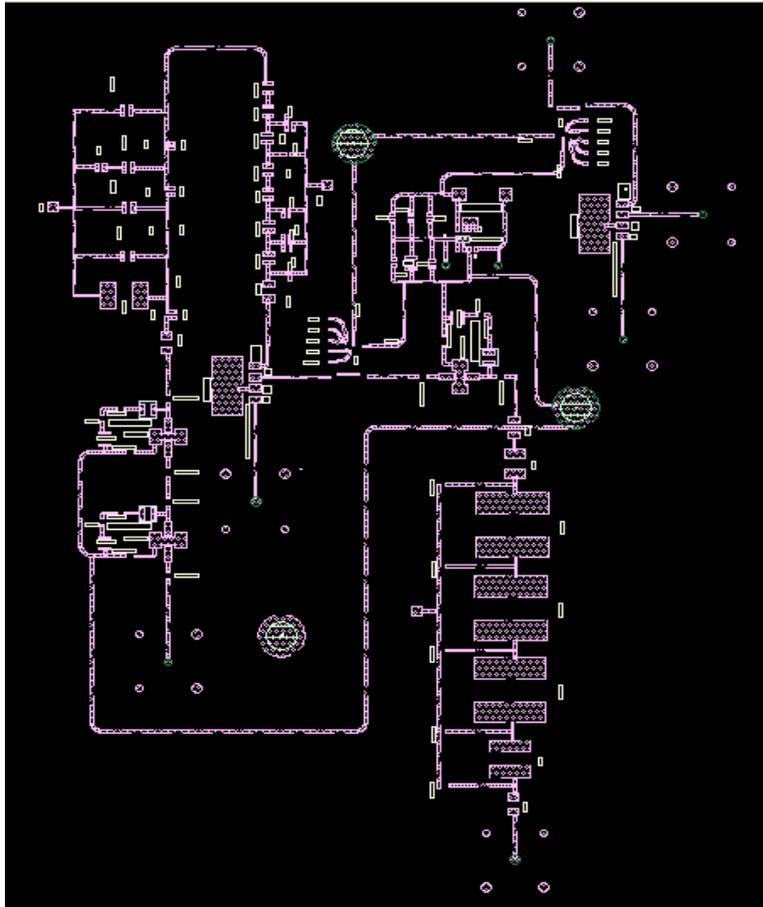

Figure 7: Final layout for mini-MRI transmitter & receiver
- 3) The final step in component interconnection is to connect the circuit to power, input/output, and ground. For the frequencies at which the mini-MRI circuit will be operating (0 – 42.5MHz) BNC connectors are suggested for input and output. The standard CON5 design is easy to use (see figure 6a). For power and ground connections banana connectors (see figure 6b) are effective. If the bottom plane is a ground plane it will only be necessary to have one banana connection to that plane. *Again make certain to use only the top and via layers when creating this footprint.* The power source(s) will need to be connected to all appropriate components. The final MRI transmitter/receiver layout is shown in figure 7.